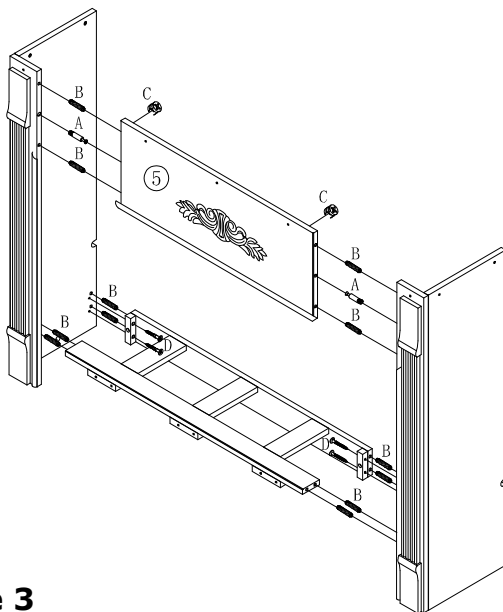

Figure 3
INSERT 2PCS CAM-BOLTS (A), 12PCS WOOD DOWELS (B) INTO PREDRILLED HOLES ON EDGES OF LEFT AND RIGHT FRONT PANELS (3.4), LEFT AND RIGHT SIDE PANELS (6.7) AND FIT INTO CORRESPONDING HOLES ON ENDS OF PARTS (5,11.12). INSERT 2PCS CAM-LOCKS (C) INTO BIG HOLES ON BACK OF MIDDLE FRONT PANEL (5) WITH SLOT FOR SCREWDRIVER FACING OUTWARD. ROTATE CAM-LOCKS (C) CLOCKWISE TO SECURE CAM-BOLTS (A). INSERT 4PCS FLAT HEAD LONG SCREW(D) THROUGH PREDRILLED HOLES ON END OF BACK RAIL (12) AND TIGHTEN INTO CORRESPONDING HOLES ON INSIDE OF LEFT AND RIGHT SIDE PANELS (6&7). AS FIGURE 3 SHOW